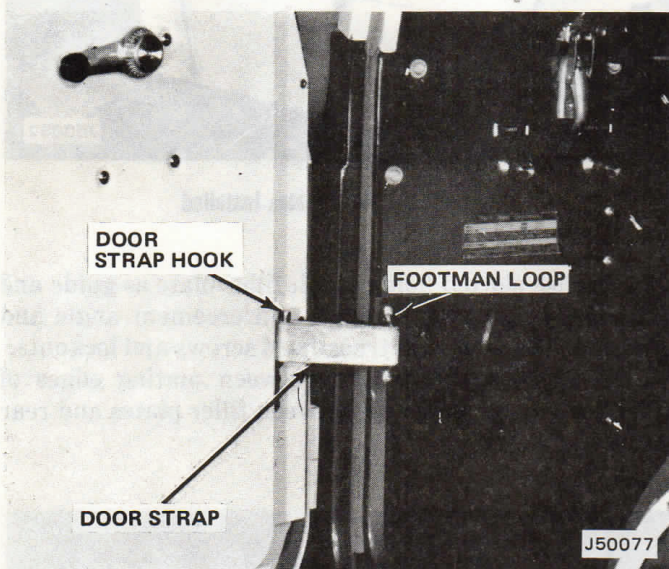

Fig. 2-9 Door Strap and Footman Loop Installed
(1) Slip one end of door strap onto each door strap hook (fig. 2-9). Insert footman loop into opposite end of